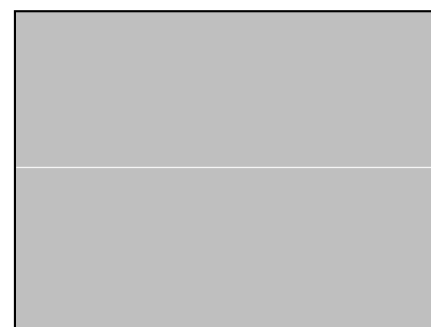

Fig. 2-2
2. Press "10" key of the numeric channel keypad to get a horizontal single line screen (Fig.2-2).